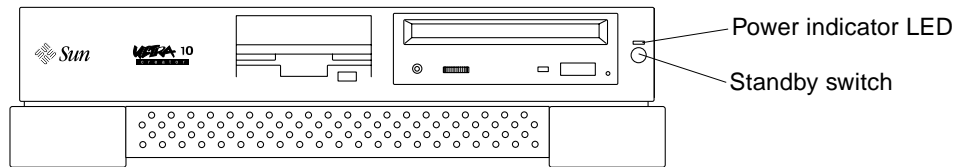
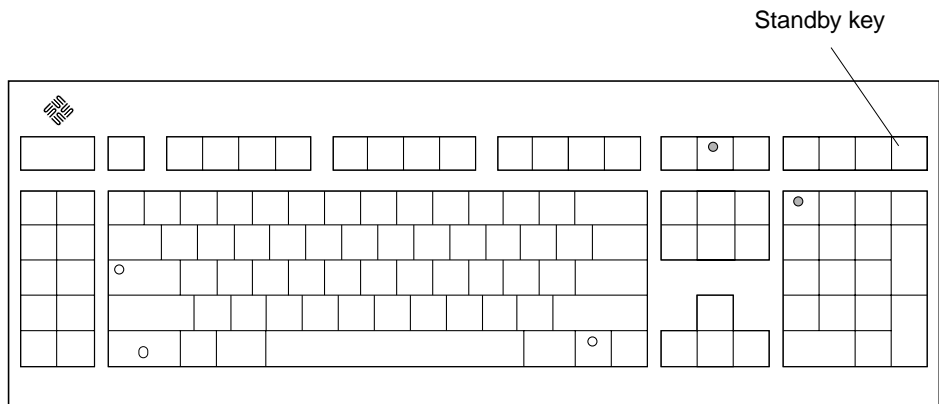
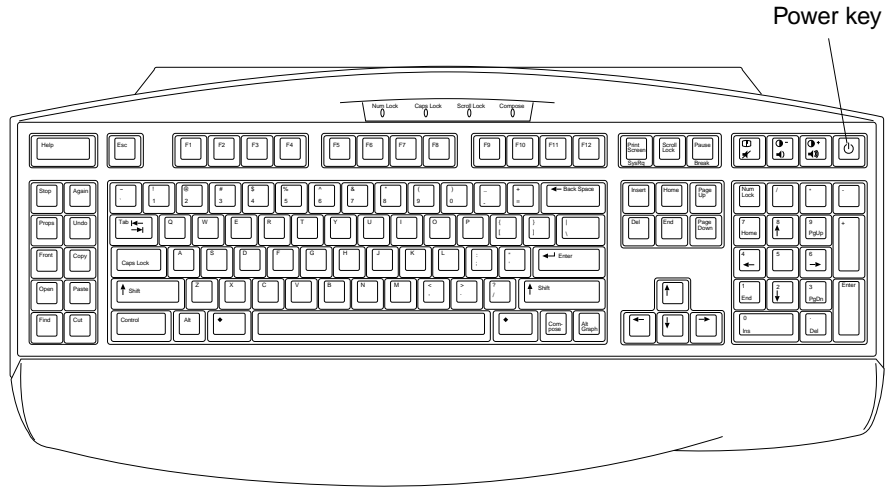

FIGURE 1-1 Ultra 5 System Standby Switch
FIGURE 1-2 Sun Type-5 Keyboard
FIGURE 1-3 Sun I/O Type-6 Keyboard
2. Press the system standby switch (FIGURE 1-1), or press the Sun Type-5 keyboard Standby key (FIGURE 1-2) or the Sun I/O Type-6 keyboard Power key (FIGURE 1-3).